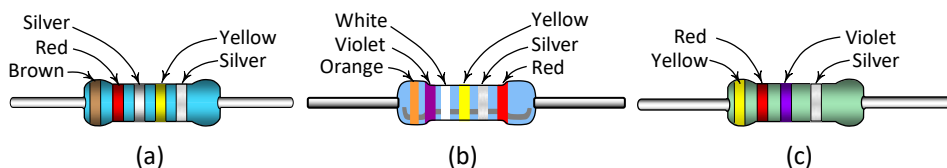

Fig.1-142: Resistors for Ex. 9
8. As shown in Fig.1-142, 16 V is applied at terminal 3 of a potentiometer with terminal 1 grounded. The output voltage, at terminal 2, becomes 6 V when the wiper (terminal 2) is placed exactly at the middle of the resistive track. If the resistance of the pot is  $20\ \text{k}\Omega$ , determine the individual resistances of the two halves of the potentiometer. Is the resistive track linear?